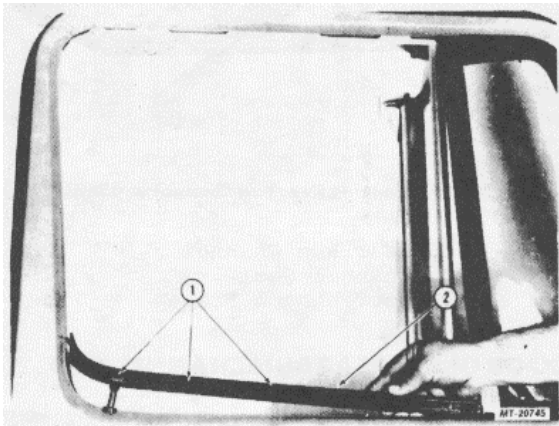

Fig. 16. Door Glass Inner Seal
Door glass inner and outer seals are retained in bottom of window frame by clips (Fig. 16).
2. Carefully pry out inner and outer seals from window frame (Fig. 16). Apply pressure at clips to avoid damage. If clips are broken during removal, a replacement seal will be necessary.